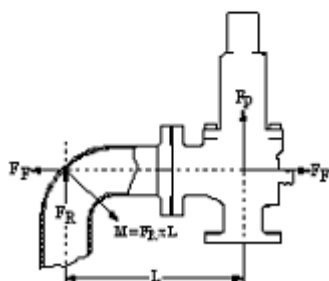

Fig.5 Valve open at regime condition
Once the flow rate has stabilized (Fig. 5), the impact of the fluid on the discharge curve cancels the force (FF), and the fluid comes out downwards through the outlet; this gives a force (FR) acting upwards along the centre line of the discharge curve.